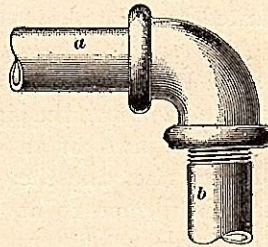

FIG. 25
**34.** In threading brass or copper pipe, particular care should be taken to revolve the dies with a uniform motion. This prevents splitting the pipe, and allows the dies to cut slowly and evenly, which helps to prevent the thread from being ragged or chewed away in places. Particular care should be taken, in threading nickel-plated pipe, to make the threads just long enough to be all hid in the fitting, as shown at *a* in Fig. 25, instead of having them too long and allowing a few threads void of plating being visible, as at *b*. The former indicates neat, skilful workmanship.
The neat finish shown at *a*, Fig. 25, is readily obtained by the use of recessed fittings, which allow some of the